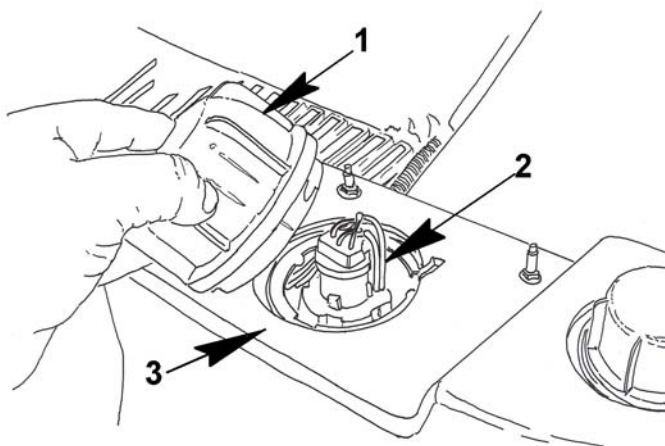

Figure 44 Head Lamp Replacement
2. Turn the socket cover and remove (Figure 44, Item 1).